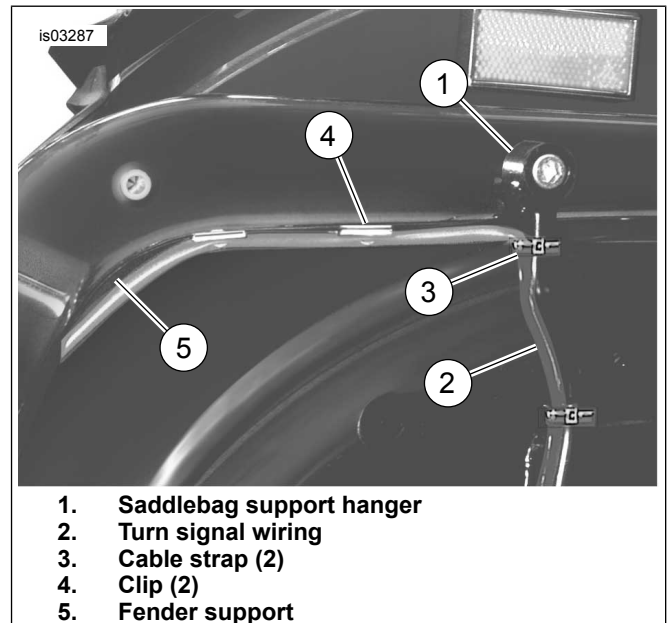

Figure 12. Route Wiring and Install Straps and Clips
2. Connect socket half of turn signal connector to pin half on wire harness (2).
3. Remove adhesive backing from two clips (3) and install to support plate.
5. See Figure 12. Continue routing up the inside of saddlebag support hanger (1) and fasten turn signal wiring (2) to hanger using cable straps (3). Clip excess plastic from ends of straps.
6. Remove adhesive backing from two clips (4) and install to bottom of fender support (5).